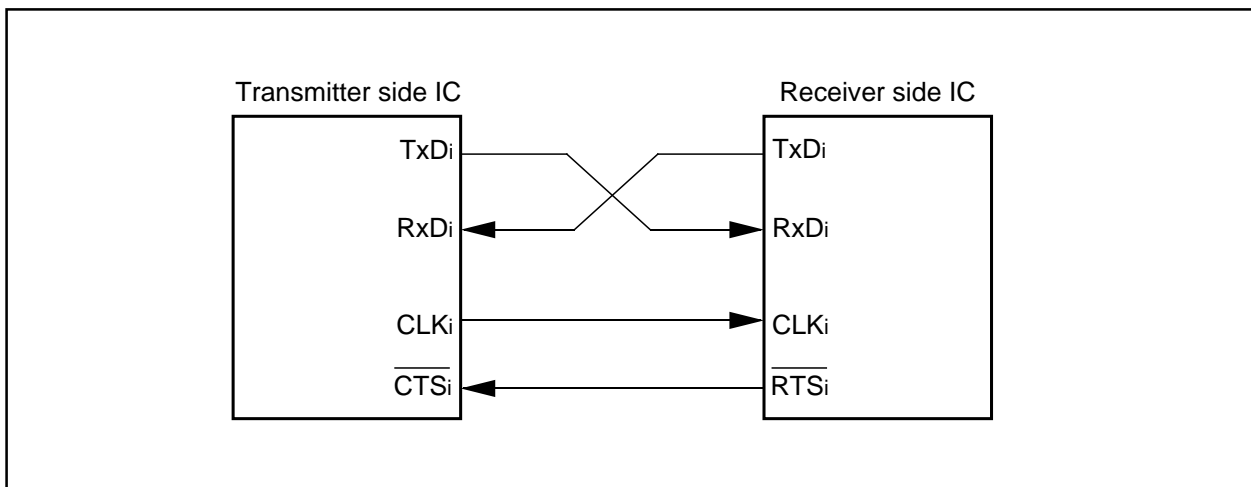

Figure 2.4.16. Example of wiring
- (1) With an external clock selected, and choosing the \overline{RTS} function, the output level of the \overline{RTSi} pin goes to “L” when the data-receivable status becomes ready, which informs the transmission side that the reception has become ready. The output level of the \overline{RTSi} pin goes to “H” when reception starts. So if the \overline{RTSi} pin is connected to the \overline{CTS} pin on the transmission side, the circuit can transmission and reception data with consistent timing. With the internal clock, the \overline{RTS} function has no effect. Figure 2.4.16 shows an example of wiring.